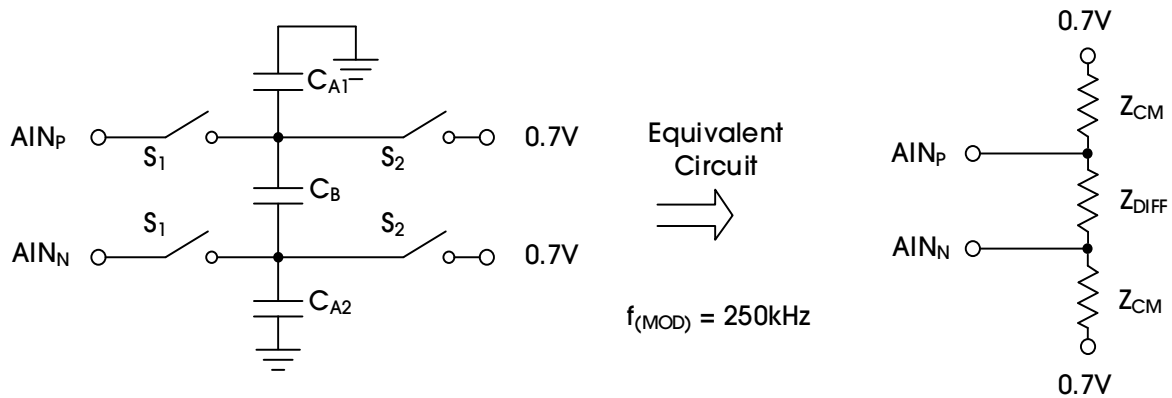
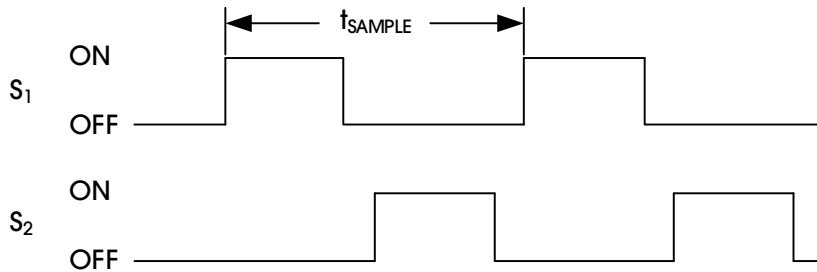

Figure 24. Simplified Analog Input Circuit
Figure 25. S_1 and S_2 Switch Timing
The ADX112(Q) uses a switched-capacitor input stage where capacitors are continuously charged and then discharged to measure the voltage between AIN_P and AIN_N . This frequency at which the input signal is sampled is called the sampling frequency or the modulator frequency ($f_{(MOD)}$). The ADX112(Q) has a 1MHz internal oscillator which is further divided by a factor of 4 to generate the modulator frequency at 250kHz. The capacitors used in this input stage are small, and to external circuitry, the average loading appears resistive. This structure is shown in Figure 24. The resistance is set by the capacitor values and the rate at which they are switched. Figure 25 shows the setting of the switches illustrated in Figure 24. During the sampling phase, switches S_1 are closed. This event charges C_{A1} to $V_{(AINP)}$, C_{A2} to $V_{(AINN)}$, and C_B to $(V_{(AINP)} - V_{(AINN)})$. During the discharge phase, S_1 is first opened and then S_2 is closed. Both C_{A1} and C_{A2} then discharge to approximately 0.7V and C_B discharges to 0V. This charging draws a very small transient current from the source driving the ADX112(Q) analog inputs. The average value of this current can be used to calculate the effective impedance (Z_{eff}), where $Z_{eff} = V_{IN} / I_{AVERAGE}$.
The common-mode input impedance is measured by applying a common-mode signal to the shorted AIN_P and AIN_N inputs and measuring the average current consumed by each pin. The common-mode input impedance changes depending on the full-scale range, but is approximately $6M\Omega$ for the default full-scale range. In Figure 24, the common-mode input impedance is Z_{CM} .
The differential input impedance is measured by applying a differential signal to AIN_P and AIN_N inputs where one input is held at 0.7V. The current that flows through the pin connected to 0.7V is the differential current and scales with the full-scale range. In Figure 24, the differential input impedance is Z_{DIFF} .